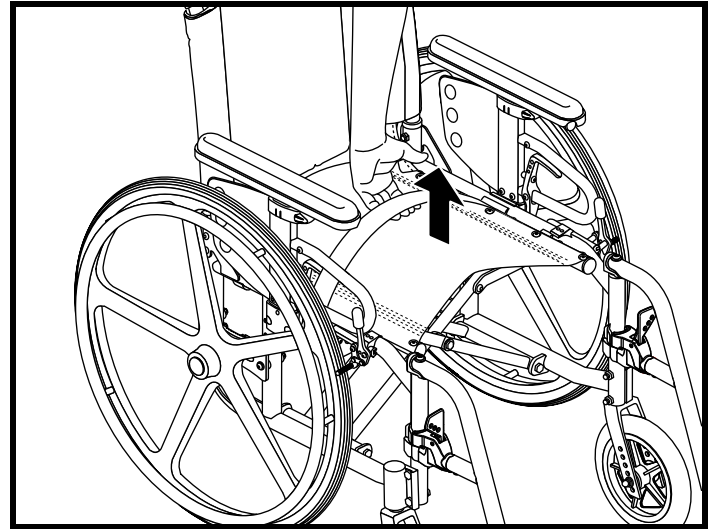

Figure 9. Folding the Litestream XF
4. Pull up on the strap until both wheels close together. See figure 9.